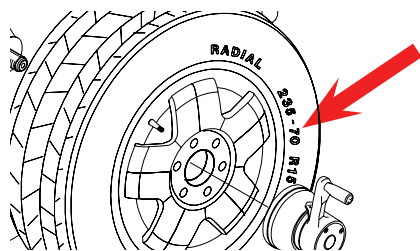

Figure 24a
- Select the Manual Diameter button. Read the rim diameter marked on the sidewall of the tire (Figure 24a and 24b). Press the Diameter Button (D) and enter the measured rim diameter by selecting the +/- keys until the desired value appears in the display.